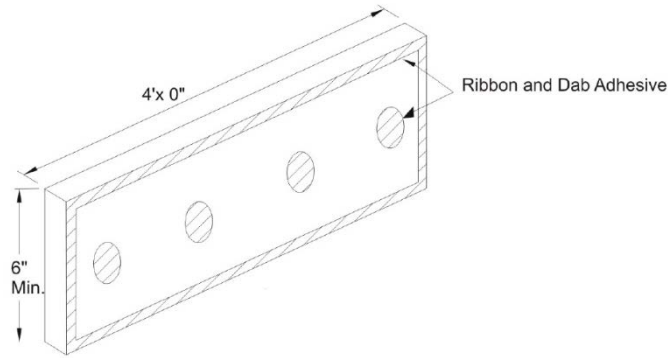

Figure 7
8.3.9. Tops of walls, sills of continuous windows and other horizontal system terminations are terminated using 152 mm x 305 mm x 1.2 m (6 in x 12 in x 48 in) closure blocks. These are adhered to Backstop NT using a ribbon and dab adhesive pattern as shown in the Figure 7.